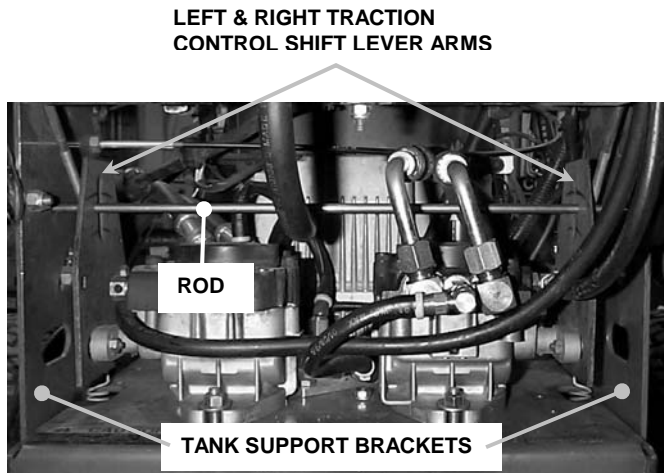

FIGURE 3.9
STEP 3: Insert rod (5/16" diameter x 20" long) through alignment holes in the left and right traction control shift lever arms and the tank support bracket. The rod should pass through both the left and right traction control shift lever arms. See Figure 3.9.